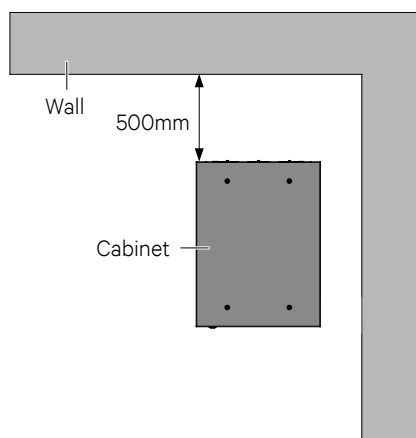

Figure 2-5 Installation clearances (top view of rack installation)
The internal fans provide forced air cooling for the UPS. Cooling air enters the UPS through the ventilation holes on the front panel, and exhausts the hot air through the back ventilation holes. Therefore, do not obstruct the ventilation holes. Maintain at least 200mm clearances between the front, rear of the UPS and the wall or adjacent equipment (see Figure 2-5), to avoid obstructing the UPS ventilation and heat dissipation. Otherwise, the UPS internal temperature will rise, which will shorten the UPS life.
2. As shown in Figure 2-5, the demonstration of the clearance between the rear panel of the cabinet and the wall is 500mm. The clearance should not be less than 200mm, it needs to be considered according to the actual situation for the sake of maintenance convenience.